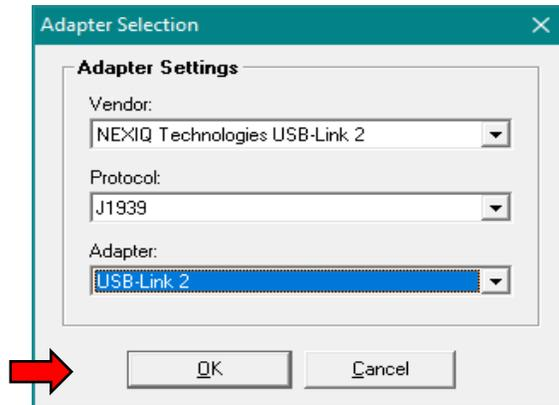

Fig. 7, Toolwrench Adapter Settings
12. Then select the correct options for each menu field, then click ok. See Fig. 7.